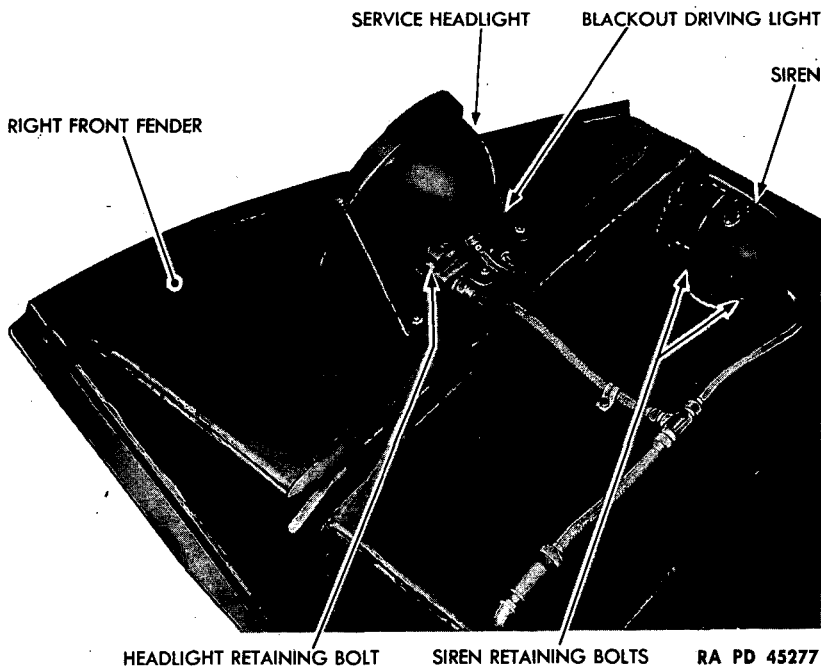

Figure 45—Detail of Headlight and Siren Installation
82. LIGHTS (fig. 45).
d. Siren (fig. 45). The siren is located on the right front fender and is actuated by a button located at the heel of the driver's foot rest.